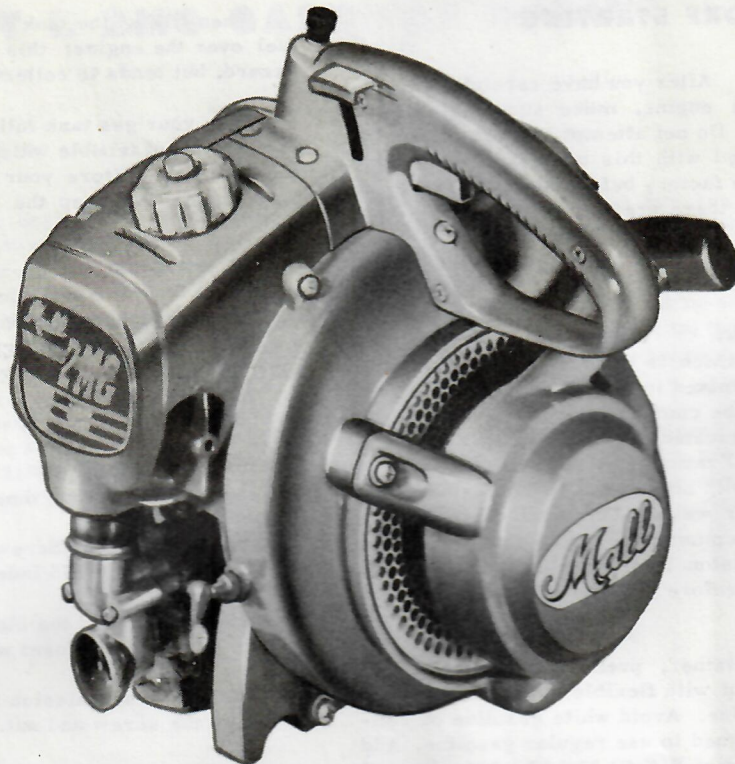

FIG. 3
**Location of controls.** Before applying a 2MG gasoline engine to a job, the operator should familiarize himself with the controls. All controls for normal operation are easily reached. Refer to Fig. 3 for illustrations.